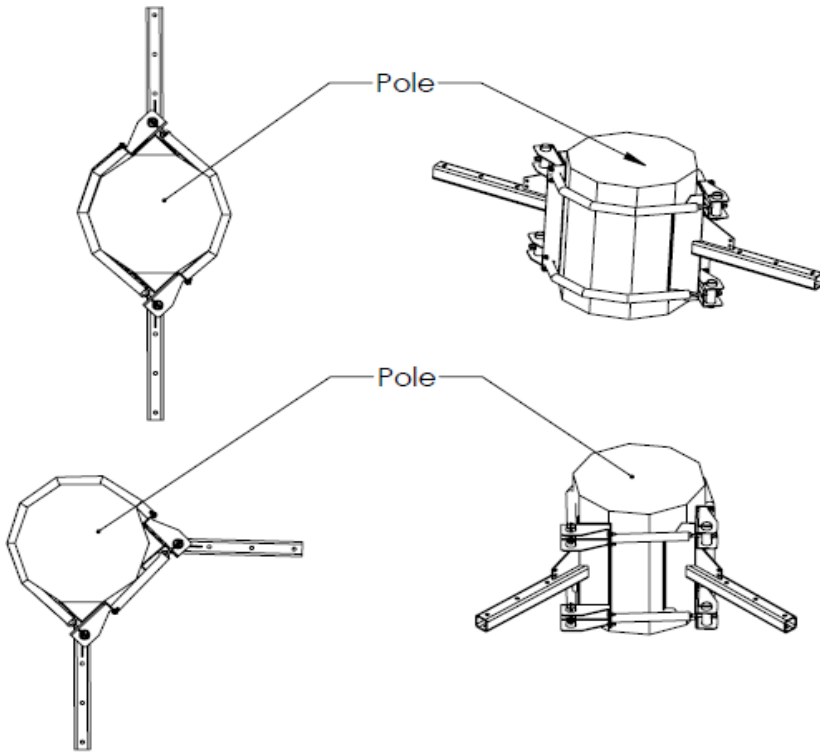

Figure 1A. Two PM1-17-Gs Installed at a Single Height.
- Record measurements from the PM1-17-G worksheet (which can be found in appendix A, section 2, Figure 1A) for each unique mounting instance.